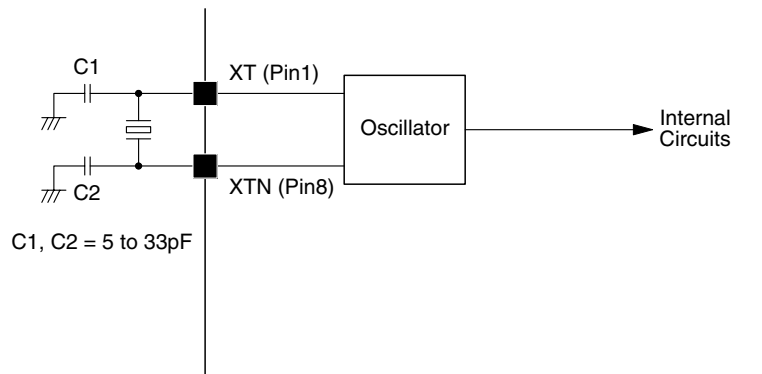
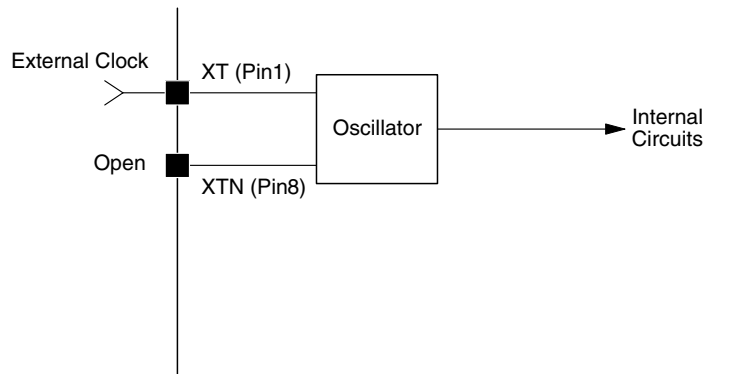

Figure 2. Crystal element connection
Figure 3. External clock input
The SM8761 series master clock can be generated by the crystal oscillator formed by connecting a crystal between XT (pin 1) and XTN (pin 8) as shown in Figure 2. Alternatively, an external master clock can be input directly on XT (pin 1) as shown in Figure 3. If an external clock is input on XT, it is recommended that the clock have 50% duty and V_{DD} level voltage amplitude. Note that the input clock amplitude voltage must not exceed the absolute maximum rating, otherwise it may cause the SM8761 series to breakdown.
- 3) If using an external clock input on XT, then connections to XT and XTN should be as shown in figure 3.